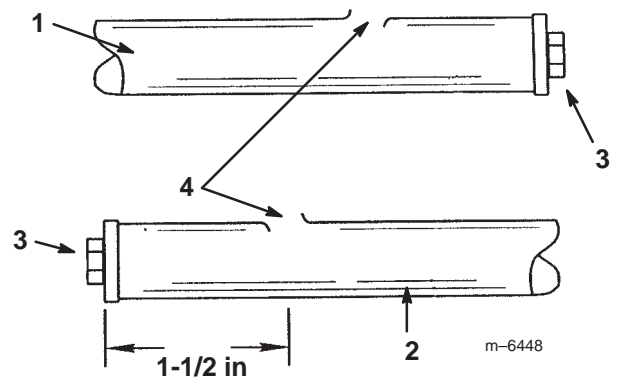

Figure 13
1. Locate, mark, and drill (through the top surface only) a hole (5/8 in. dia) 1-1/2 in. from the plugged end of the right boom pipe (Fig. 13).
3. Use a round file or deburring tool to deburr the holes you drilled in the boom pipes (Fig. 13).
4. Insert a drift punch into the 5/8 in. holes in the boom pipes and distort the openings as shown in Figure 13.